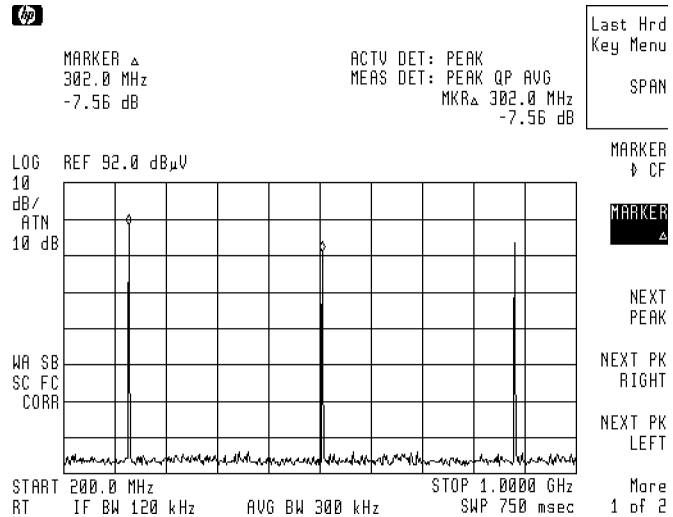

Figure 6-13. Using the Marker Delta Function
- The amplitude and frequency difference between the markers is displayed in the active function block and in the Marker Box. See Figure 6-13.